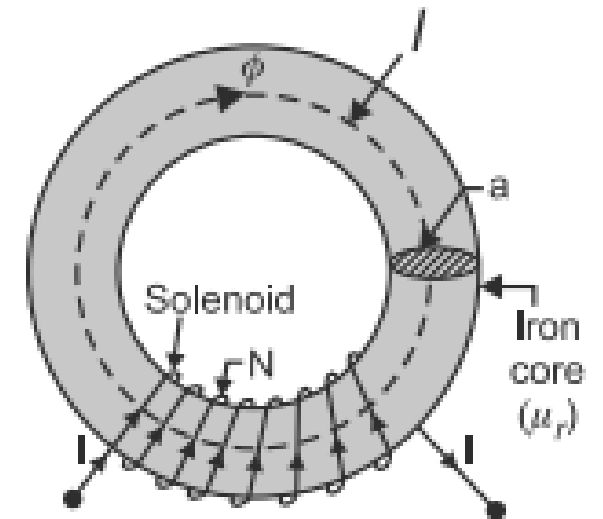

Fig. 3.1 Magnetic circuit
- Consider a ferromagnetic ring shown in Fig. 3.1.